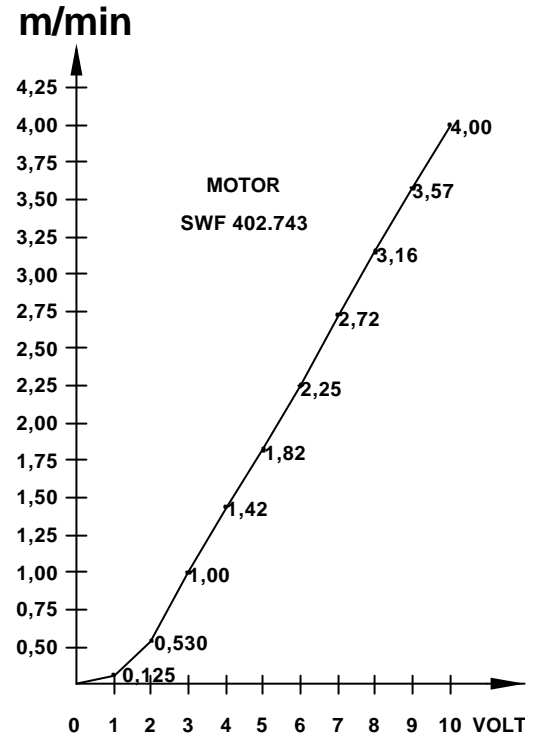

Figure 5
**Figure 5** shows the relationship between a control signal 0-10V from, for instance, a robot and the amount of wire provided. The X-axis shows the control signal from 0-10V, and the Y-axis shows the amount of wire the KT-4 will feed as a function of the control signal.